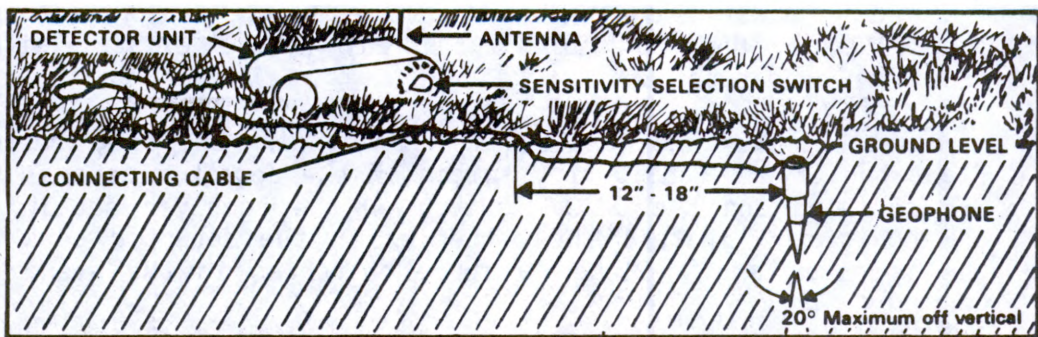

Figure 2. PSID emplacement.
b. Select one of the detector sets and notice the pulse code marked on the detector case. Emplace the detector set in the checkout area as shown in figure 2. The receiver operator should be 4 to 5 meters (13 to 16 feet) from the detector set.
a. The detector sets will be emplaced as shown in figure 2. The deployment location should be one which has a low level of background noise (background noise is defined as any undesired vibration within the sensitivity range of the detector set, such as high winds, rain, low-flying aircraft, and similar sources of ground disturbances). Some areas which present high levels of background noise would be airfields, heavily traveled roadways, heavily congested areas, and roadways with heavy vehicles traveling as much as a mile from the detector set. Background noise of a sufficient level could cause the detector set to transmit meaningless signals indicating movement in an area where there is none.